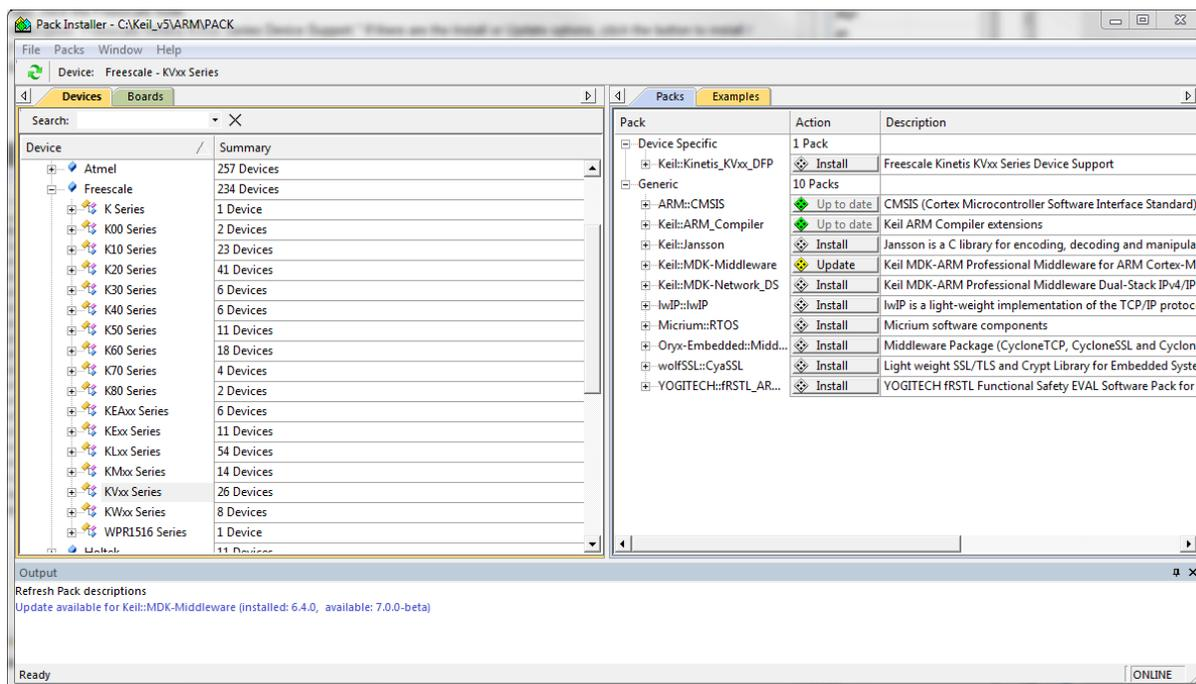

Figure 1-27. Pack Installer
- Look for a node called "Keil::Kinetis_KVxx_DFP." If there are the Install or Update options, click the button to install/update the package. See Figure 1-27.